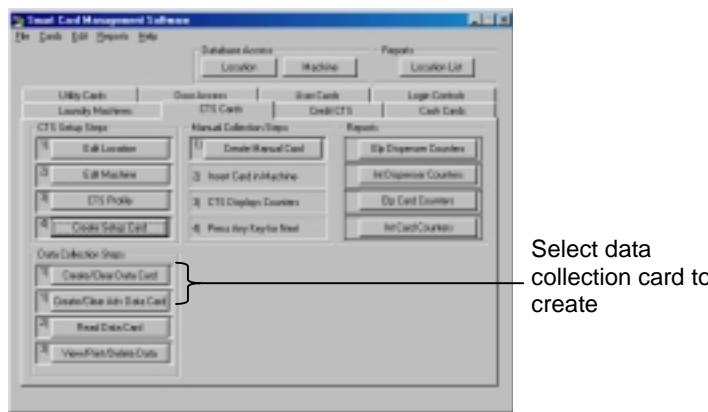

Figure 9.15 Creating a Cash CTS Data Collection Card
2. In the Cash CTS Card tab, click the Create/Clear Data Card or the Create/Clear Adv Data Card button (Figure 9.15).